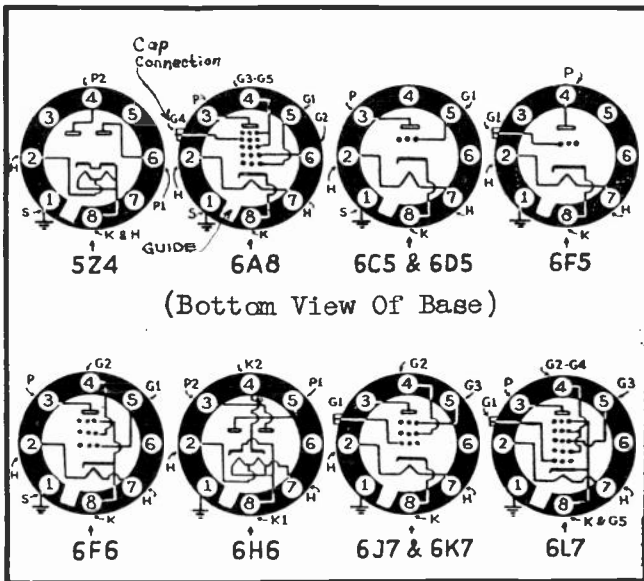
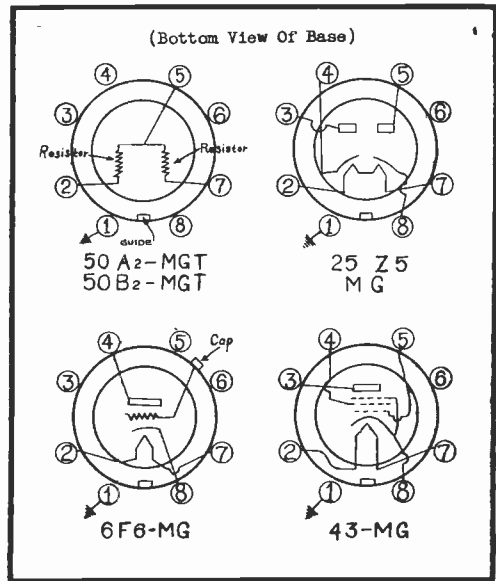

Fig. 2
Fig. 3
2. - THE ARRANGEMENT OF THE ELEMENTS, TOGETHER WITH THE BASE CONNECTIONS FOR THESE METAL TUBES, ARE ILLUSTRATED IN FIG. 2.
3. - THE BASE CONNECTIONS FOR THE REMAINING SPECIAL TUBES APPEARING IN THE TABLE ARE ILLUSTRATED IN FIG. 3. IN BOTH FIGS. 2 AND 3 BASE PRONG #1 IS GROUNDED IN ALL CASES- IN THIS MANNER GROUNDING THE METAL SHELL OF THE TUBE.